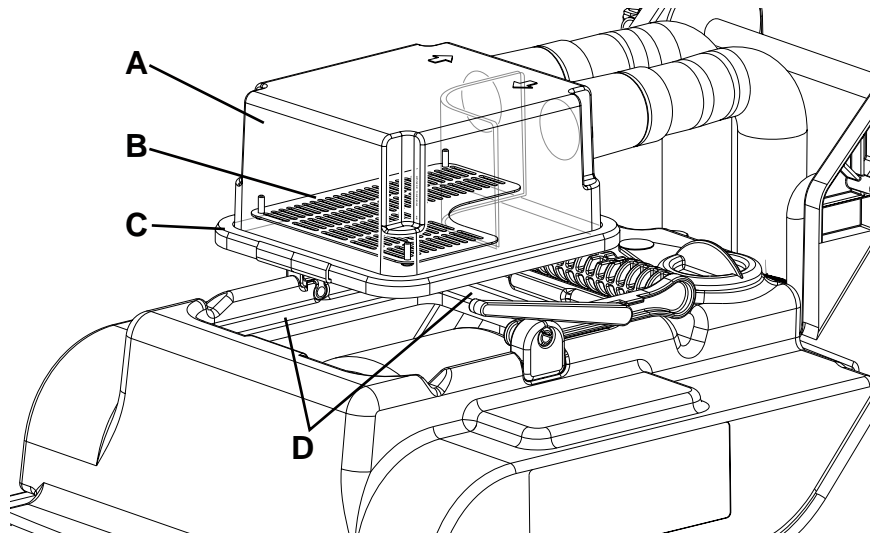

Figure 4
2. Make sure that the power supply cable (10) is disconnected from the electrical mains.
4. Open the transparent cover (A, Fig. 4) and clean it with care.